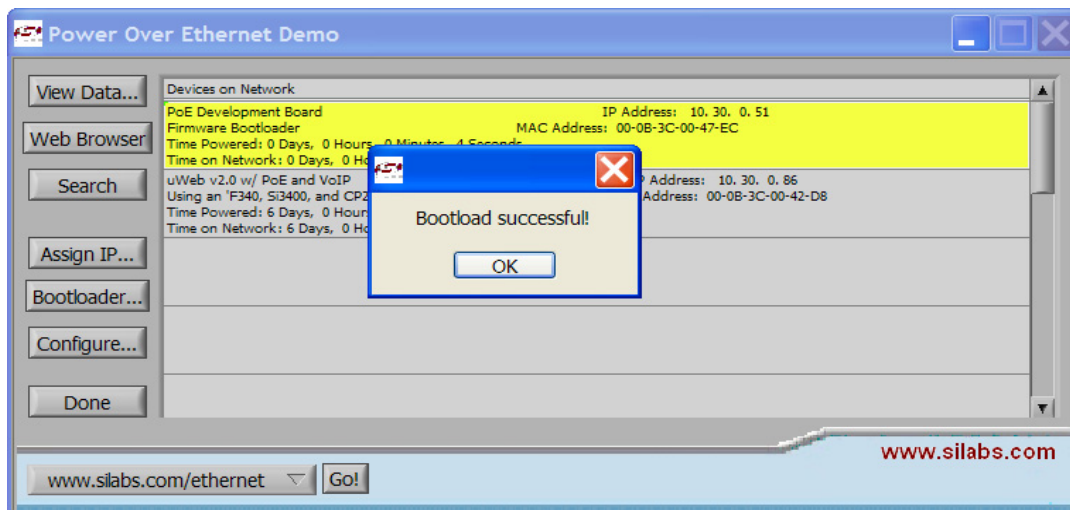

Figure 15. Successful Firmware Update
4. Once the image location is specified, the command line TFTP client (standard on all Windows PCs) is launched and bootloading initiates. After 10 to 15 seconds, a confirmation message will appear on the screen. Figure 15 shows an example of a confirmation message following a successful firmware update.